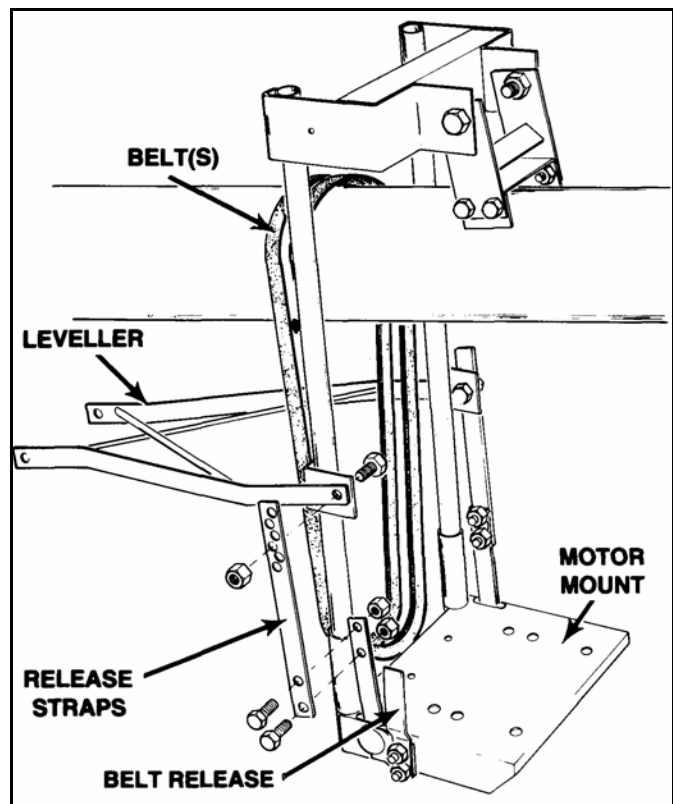

Figure 3.18
8. Attach release straps to straps on the motor mount with two 7/16" x 1" bolts and locknuts on each side (Figure 3.18).
9. Slip motor mount onto the engine carriage pipes from the bottom (Figure 3.18).
10. Attach leveler and release straps to the engine carriage with two 7/16" x 1 3/4" bolts and locknuts. Do not overtighten. Tighten snug only; these bolts act as pivot points (Figure 3.18).
11. Attach belt release handle to either left or right hand side of the motor mount with two 7/16" x 1" bolts and locknuts (Figure 3.18).